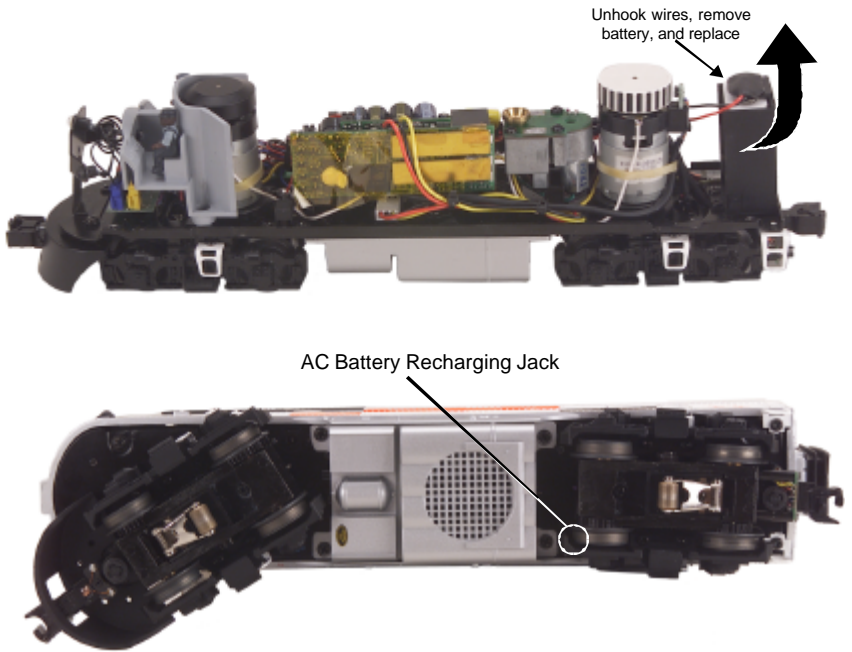

Figure 11. Replacing the Battery and the Location of the Battery Re-charging Jack.
- Use M.T.H.'s recharger (sold separately) that plugs into a wall outlet and a special port under the engine (see figure 11 on pg. 18) to recharge the battery overnight.
- Or you can remove the battery (see figure 11 on pg. 18) and charge it in any standard slow charge battery recharger, following the recharger's directions.
Replace: If the sounds are not improved at the end of the 15-minute test charge, it is time to replace the battery (see figure 11 on pg. 18).